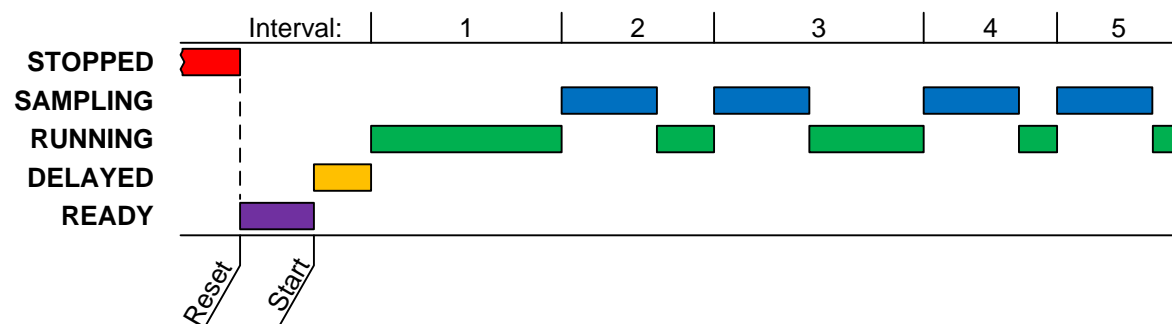

Figure A-3: Basic Sample Timing Diagram
- If a non-zero value (up to 9999 minutes) has been assigned to the Delay Start run Option (see page 55), the first sampling interval will be further delayed by that many minutes (see Figure A-3 on page 91). Until then, the program will display its operating state as DELAYED.